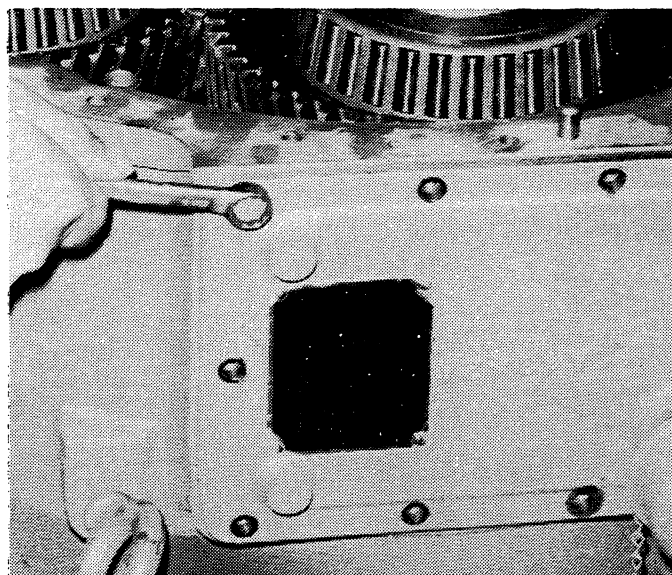

Figure 6-9. Removing or Installing Top Cover.
8. Remove ten hex-head screws (55) and remove top cover (56) and gasket (57). See Figure 6-9.